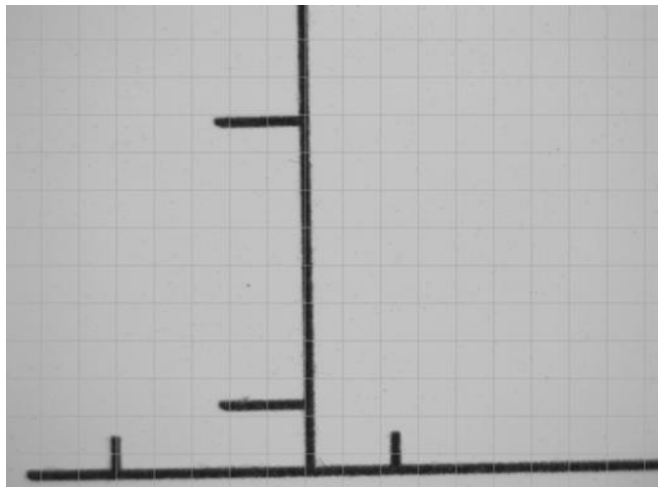

Figure 26. Template ruler poorly aligned
- If the ruler is skewed in the live view, like Figure 26, then make adjustments to the position of the focusing arm and microscope body as described in Section 5.3.4.